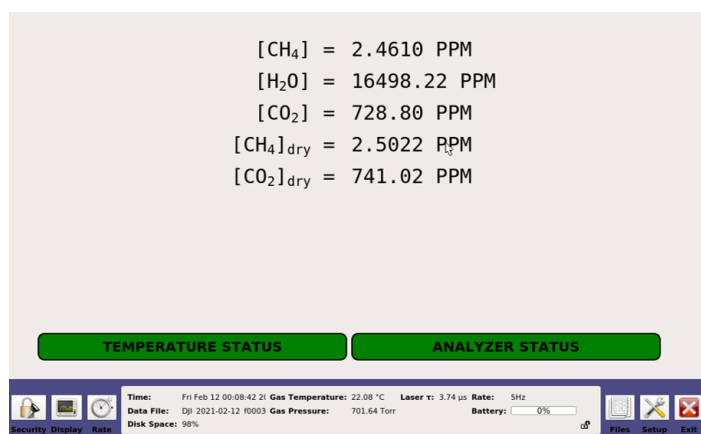
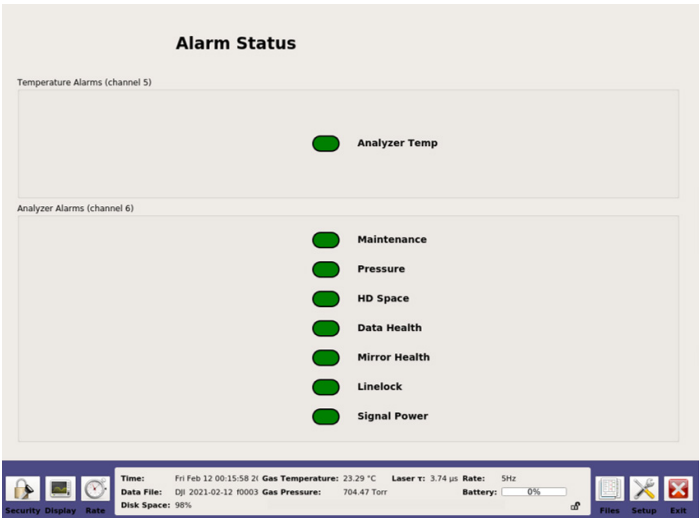

Figure 22 Numeric Display Screen
Figure 26 Alarm Status Display
- *Numeric* (Figure 22)
- *Alarm Status* (Figure 26)
The *Numeric* display is the default display and one of the simplest screens for go/no-go decisions based strictly on gas concentration measurements. Sample gas is measured in parts per million (ppm). The resolution unit auto-adjusts. Figure 22 shows an example of numeric readout of the last measurements of CH₄, H₂O, CO₂, CH₄ (Dry), and CO₂ (Dry) in parts per million (ppm). The displayed numeric readout may vary, depending on the analyzer type. In addition, the analyzer color-coded operational status is indicated (for details on color-coding, refer to *Alarm Status Display* - Figure 26).
The *Alarm Status* display (Figure 26) indicates the real-time analyzer operational status. The status uses traffic-light color indication.